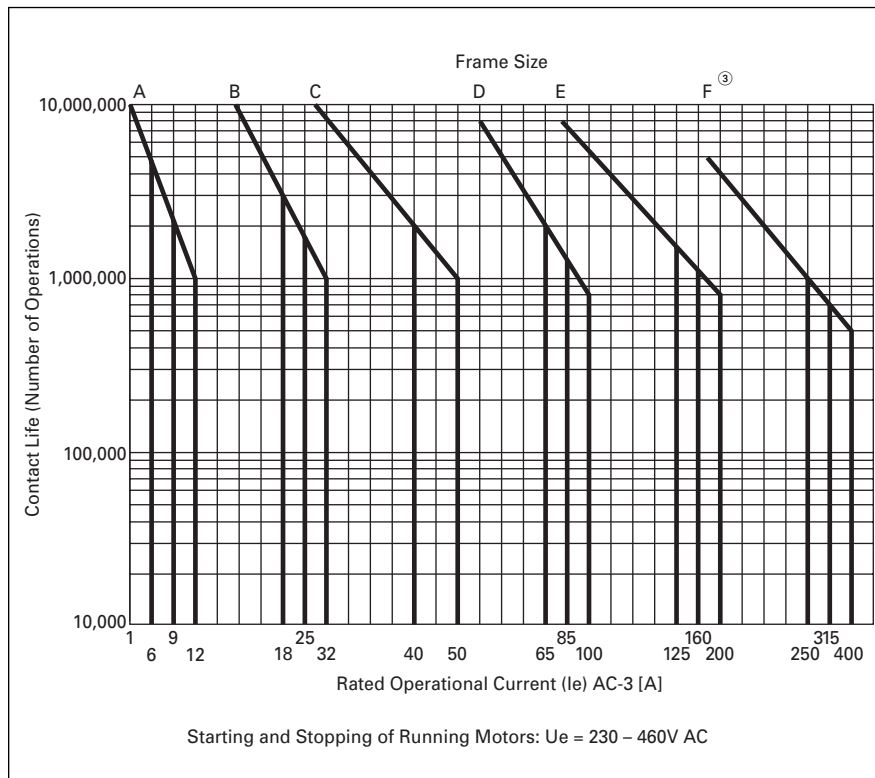

Figure 34-1. Electrical Life — AC-3 Utilization Category
① Auxiliaries add approximately 1.0" (25 mm) to depth for single, 1.2" (30 mm) for dual.
② Non-reversing contactors and starters only.
③ See Figure 34-1, Life-Load Curves, for maximum operations per frame size at various amperes.
④ Preliminary data.
- Decide what utilization category the application is and choose the appropriate curve from Figure 34-1.